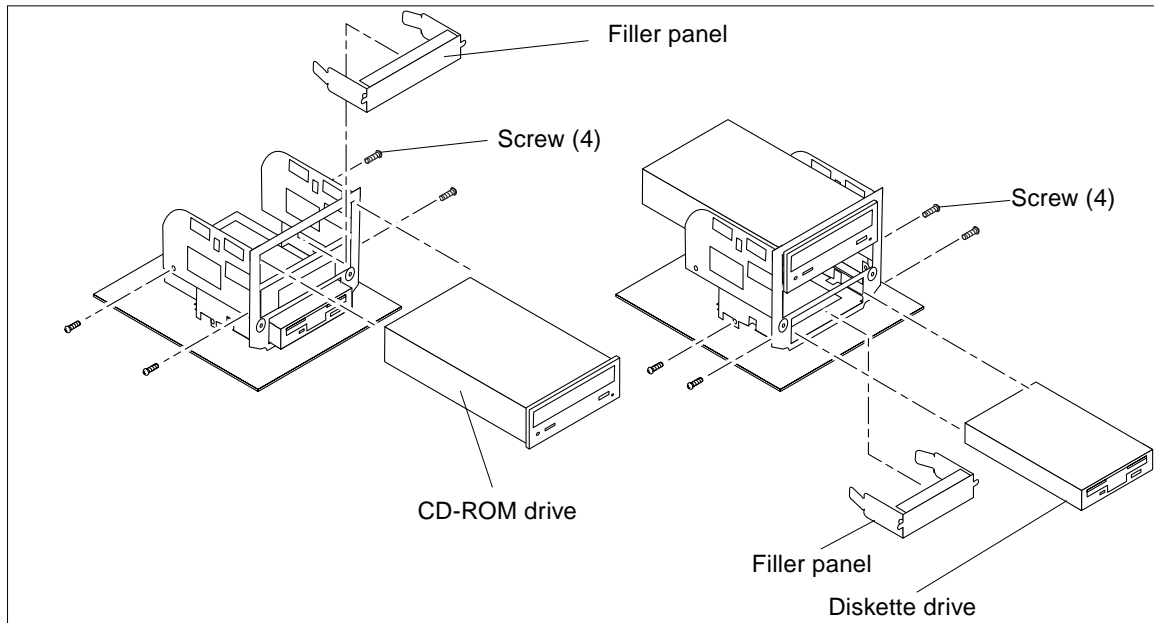

FIGURE 8-3 Removing and Replacing the CD-ROM Drive/Diskette Drive
4. **Remove the peripheral assembly as follows (FIGURE 8-2 and FIGURE 8-3):**
1. Position the peripheral assembly on a flat surface so that the CD-ROM drive or tape drive is flat (FIGURE 8-3).
1. **Remove the filler panel, if necessary** (FIGURE 8-3 on page 8-5).
1. **Position the peripheral assembly on a flat surface so that the diskette drive is flat** (FIGURE 8-3).
1. Remove the filler panel, if necessary (FIGURE 8-3 on page 8-5).